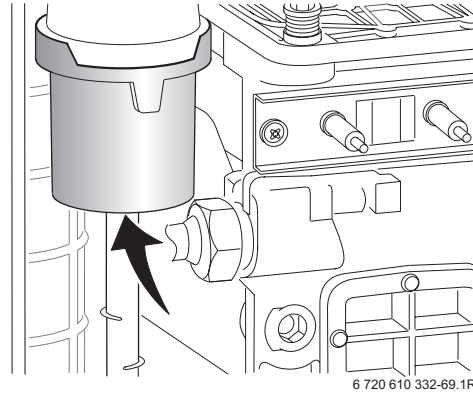

Fig. 49
- ▶ Unscrew the two fixing screws and carefully remove the electrode assembly. Refer to fig. 49.